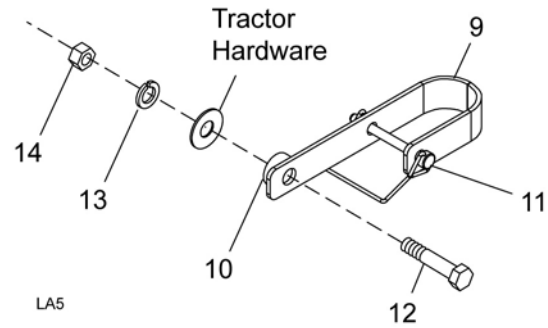

Figure 20. Hose Hanger Installation
3. Attach hose hanger (9), using spacer (10), cap screw (12), flat washer (from tractor), lock washer (13), and nut (14) as shown in Figure 20 and Figure 21.